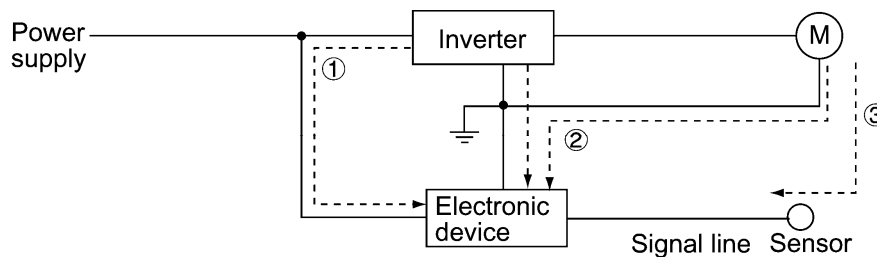

Figure A-3 Conduction Noise
(1) Conduction Noise
Noise generated in an inverter may propagate through the conductor and power supply so as to affect peripheral devices of the inverter (Figure A-3). This noise is called "conduction noise." Some conduction noises will propagate through the main circuit ①. If the ground wires are connected to a common ground, conduction noise will propagate through route ②. As shown in route ③, some conduction noises will propagate through signal lines or shielded wires.